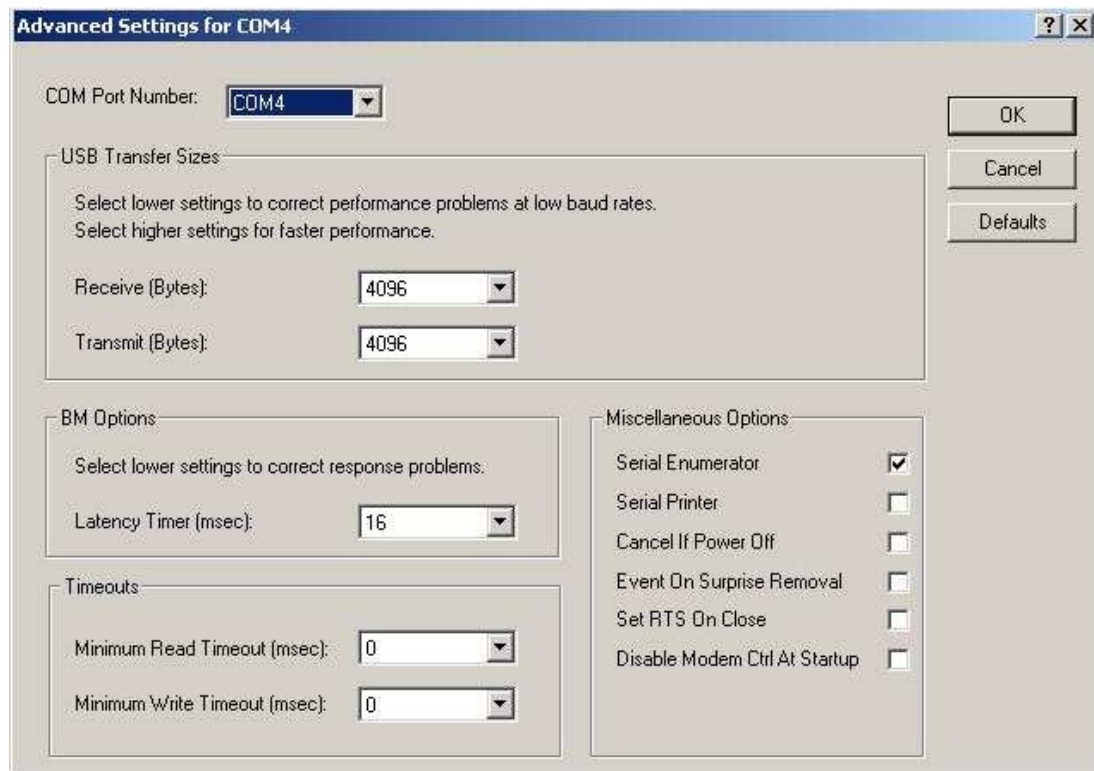

Figure 28: Serial Port Properties, Advanced
5. Find and click on the `Advanced` button to obtain the `Advanced Serial Port Properties` screen of figure 28.
6. In figure 28, the `COM Port` selection is highlighted. Click on the arrow to show a selection of COM ports. Use the up and down arrow to scroll through all the COM ports. If you wish to force the hardware to use a different COM port, you may select that port number here.